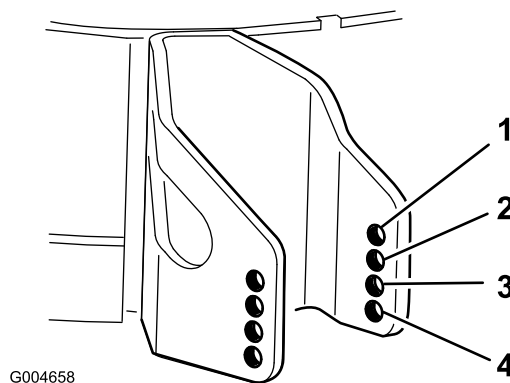

Figure 25
- Select a hole so the anti-scalp roller is positioned to the nearest corresponding height-of-cut desired (Figure 25).